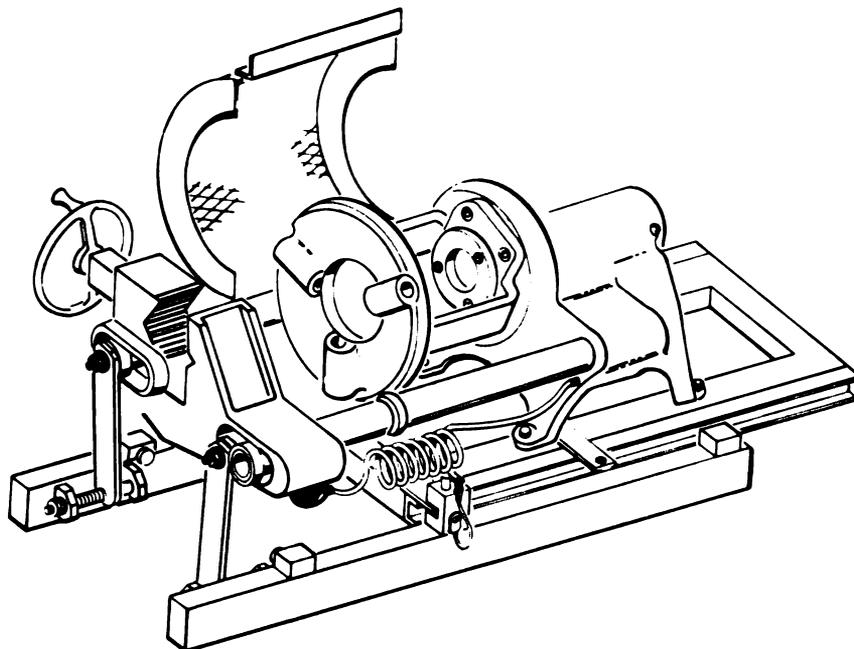

Figure 1-14. Hose Coupling Assembler.
(4) *Hose coupling assembly.* Hose coupling assembly in the HSTRU is accomplished by the use of a hose coupling assembler (see figure 1-14). This is a screw-together type machine which allows the reuse of the old coupling. The hose coupling assembler slides out over the rear work table and locks into place for use.